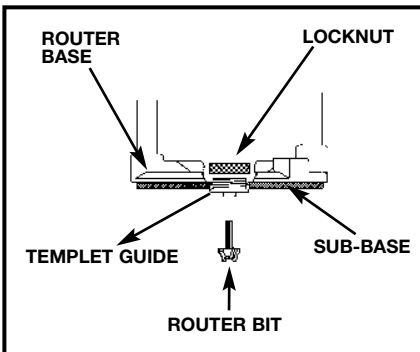
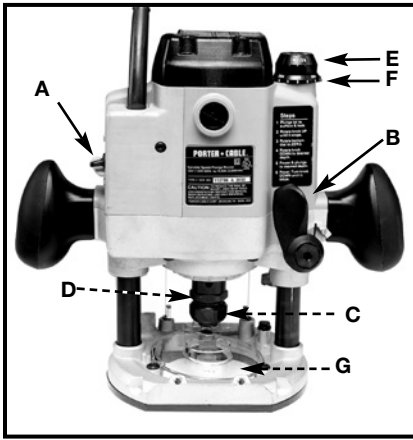
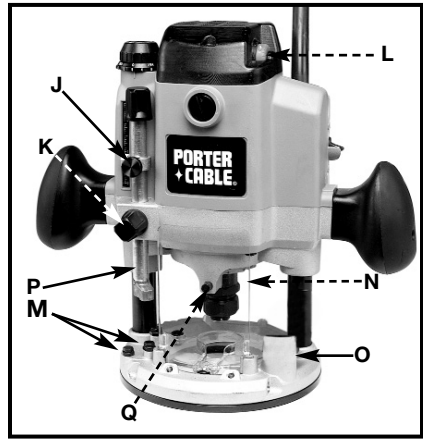

Fig. 5
Fig. 8
Fig. 9
2. With the motor at its highest position, move the plunge locking lever (B) Fig. 8 to the free motion position by rotating it to the left (in the operating position) as far as it will go. The lever will lock into position.
7. Push the base down until the templet guide centers itself on the collet nut (D) Fig. 8, and hold in this position (Fig. 4A).
8. Move the plunge locking lever (C) Fig. 8 to the lock position.
10. Push down on the base and move the plunge locking lever (B) Fig. 8 back to the free motion position.
NOTE: See Fig. 5 for proper orientation of templet guides.
1. Remove chip deflector (N) Fig. 9.
2. If bit is too large to fit through the center hole of the dust cover (G) Fig. 8, remove the dust cover.
5. Engage spindle lock (Q) Fig. 9 by pressing on it while turning chuck (D) Fig. 8 until it locks into place.
2. Release the plunge mechanism by pulling the locking lever (B) Fig. 8 to the left and lower the plunge mechanism until the router bit just touches the work surface. Release the lever and push to the right to lock the mechanism in this position.
1. Moving the plunge locking lever (B) Fig. 8 to the free motion position by rotating it to the operator's left as far as it will go (the lever will lock into this position), and ensuring that a bit is not in the tool.
- A. If the motor will not go all the way down to allow the collet to touch the work surface, the tool is in the micro-plunge adjusting mode. To return to the neutral position, push the motor down, and while maintaining pressure on the motor, turn the micro-plunge adjusting knob (E) Fig. 8 clockwise until the collet nut (D) Fig. 8 touches the surface of the work.
- B. If the motor does not rise to the full height, the tool is in the shaper table adjusting mode. To return to the neutral position, turn the micro-plunge adjusting knob (E) Fig. 8 counterclockwise until the motor reaches its maximum height.
2. Move the plunge locking lever (B) Fig. 8 to the free motion position by rotating it to the operator's left until it locks.
3. Raise the depth rod (P) Fig. 9 to its highest position.
10. Set the plunge locking lever (B) Fig. 8 to the locked position after the plunge is adjusted and before the unit is turned "ON". Move the lever to the right as far as it will go.
2. Move the plunge locking lever (B) Fig. 8 to the free motion position by rotating it to the left until it locks into position.
3. Remove the sub-base (Fig. 5) and clear dust cover (G) Fig. 8.
4. Ensure that the "ON-OFF" switch (A) Fig. 8 is in the off position.
8. The plunge locking lever (B) Fig. 8 should be set to the locked position after the bit height is adjusted and before the unit is turned on. Move the lever to the right as far as it will go.